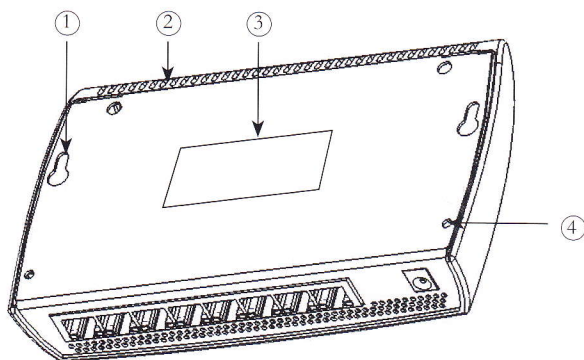

Figure 2. Back of the Customer Premises Switch (CPS)
1. Drill the necessary holes in the wall for supporting the CPS. The fixing positions are shown in Figure 2 (no. 1). A template for this purpose is also provided in the back of this leaflet.
Key to figure 2